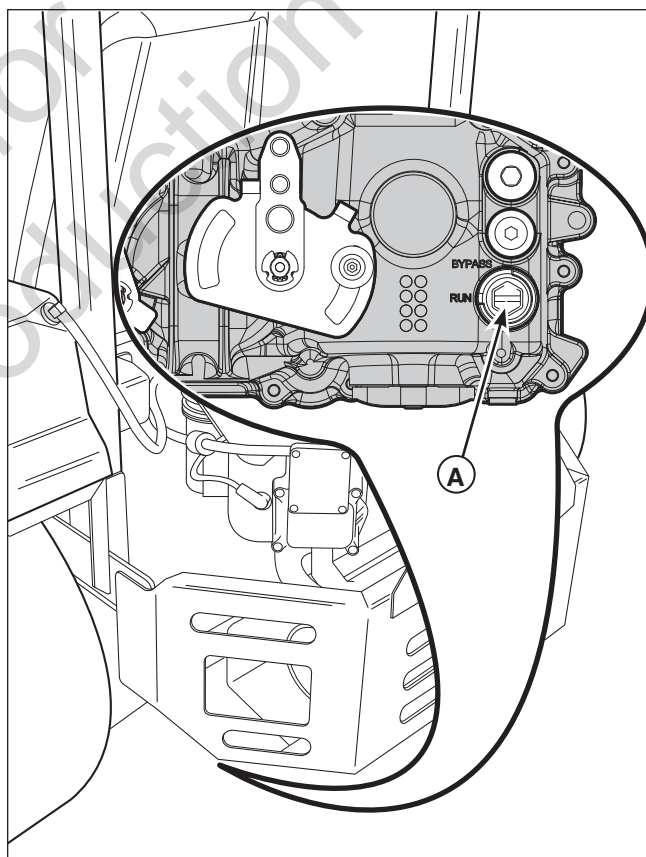

Figure 6. Hydraulic System By-Pass
2. Open the hydraulic bypass valve. To open the bypass valves, turn the bypass valve, which is located on the side of the transmission, CLOCKWISE. See Figure 6 for valve location.